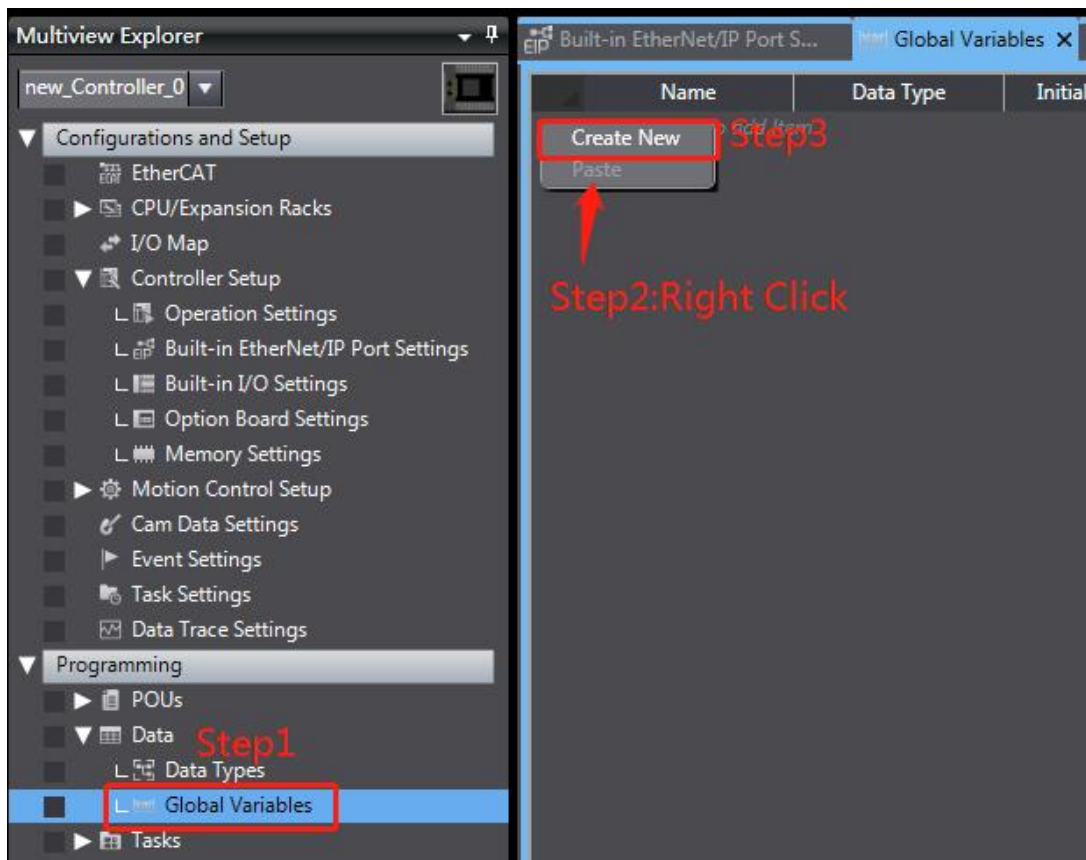

Figure 5-2-3
- The addition of global variables is shown in Figure 5-2-3 and Figure 5-2-4.